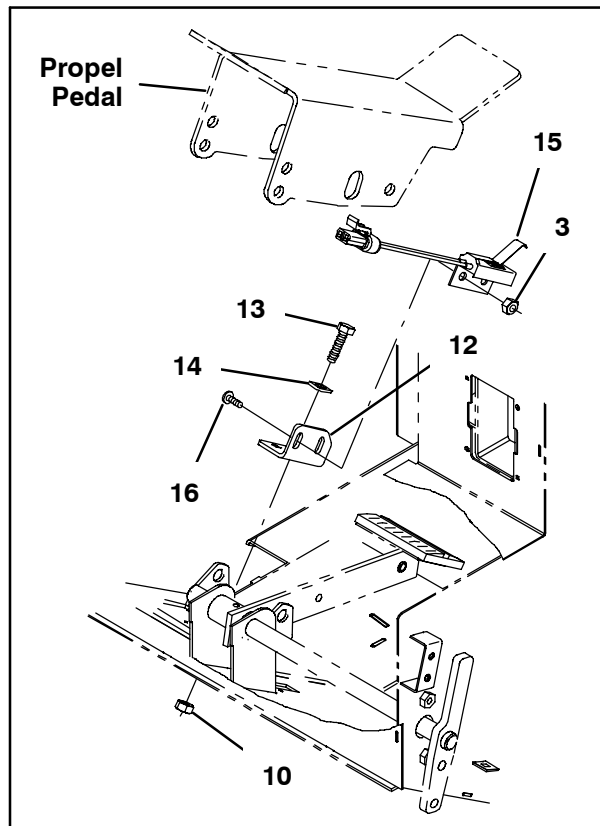

FIG. 4
- If necessary, remove the propel pedal from the machine. Set all mounting hardware aside. Refer to Fig. 4.
- Use two hex nuts (3) and two pan screws (16) to install the snap switch (15) onto the reverse switch bracket (12). Refer to Fig. 4.
- Use two hex screws (13), two washers (14), and two hex nuts (10) to install the reverse switch bracket (12) onto the machine. Refer to Fig. 4.